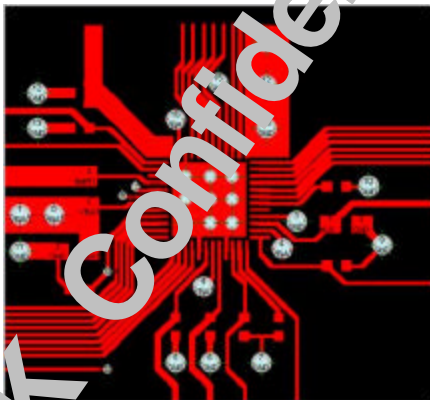

Figure 4. Top Layer of reference PCB Layout
7. See Fig4. for reference PCB layout. The thermal pad is attached to die substrate, so the thermal planes that the vias attach the package to **Must be connected to GND.**